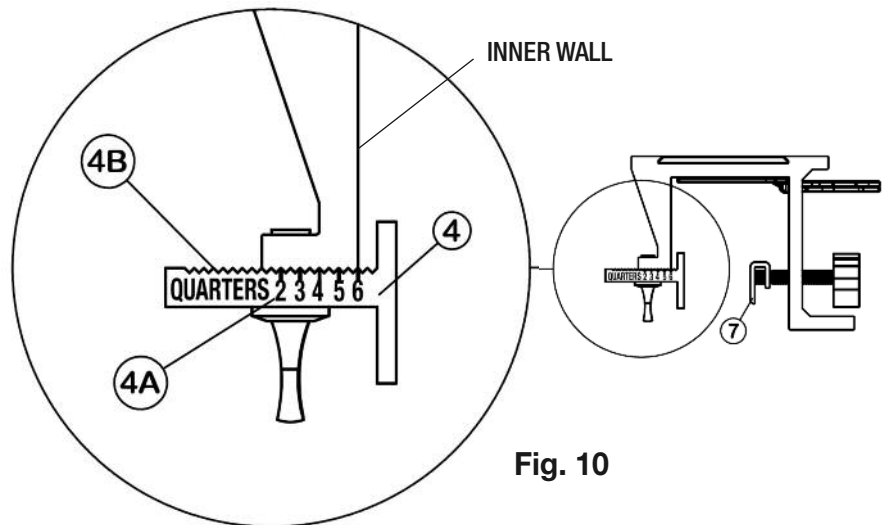

Fig. 10
- Centering the stock in the jig is accomplished by adjusting the *Centering Wall* [4] (Fig.10) for the thickness of the stock.